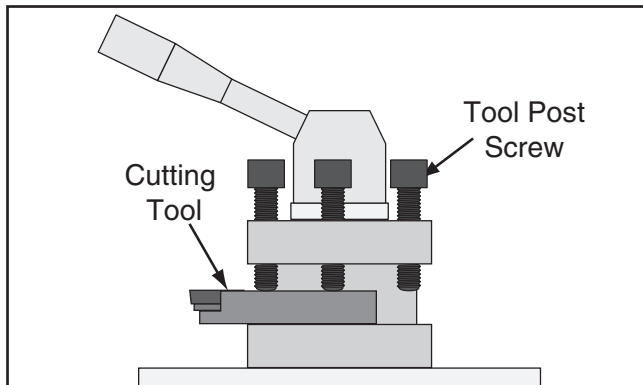

Figure 43. Example of tool mounted in tool post.
1. Adjust the tool post screws so that the cutting tool can fit underneath them (see **Figure 43**).